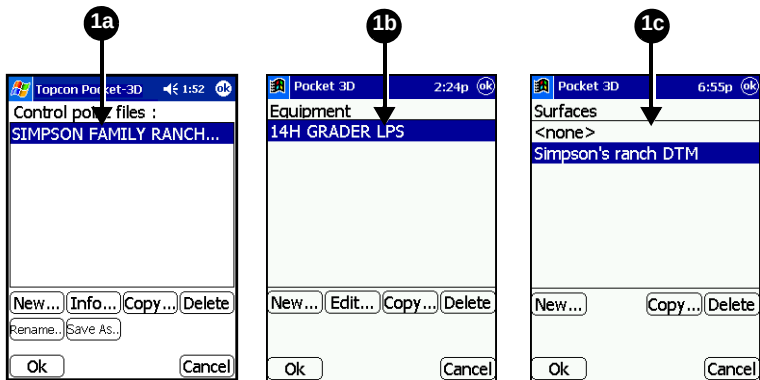

Figure 8-6. Select Jobsite Files
1. Open Pocket-3D on the controller and select the following jobsite files (Figure 8-6):